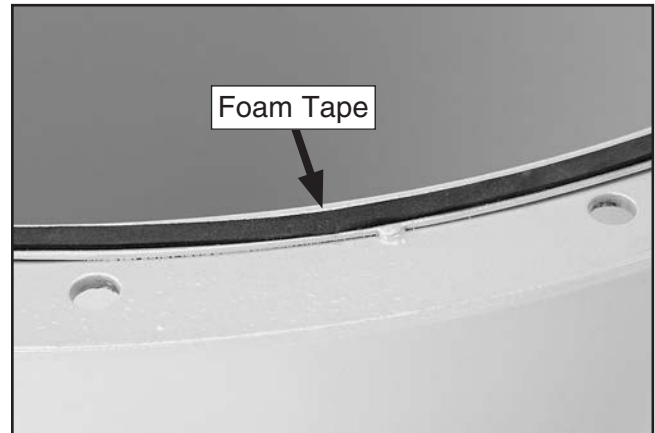

Figure 9. Foam tape applied to intake cylinder rim.
6. Place intake cylinder on floor and apply 3 x 6 x 1800mm foam tape to intake cylinder top rim, between mounting holes and inside edge (see **Figure 9**).